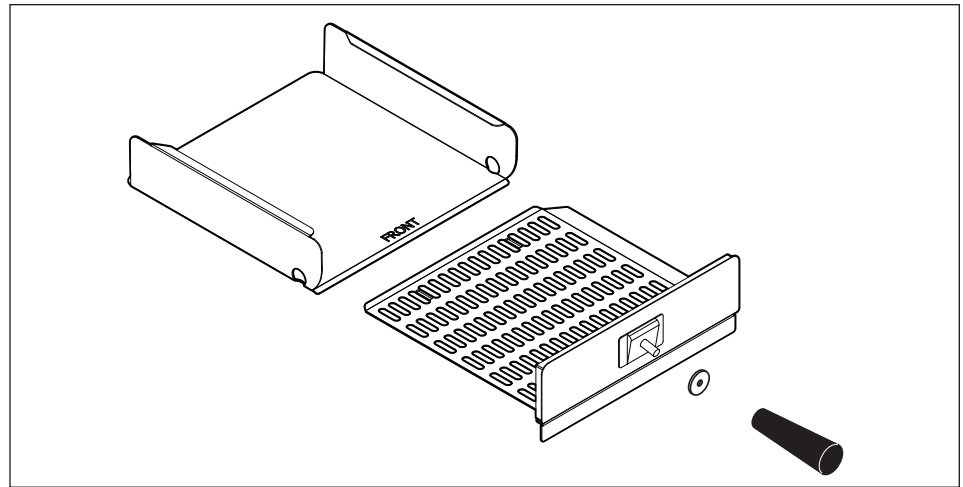

Figure 1. CM-100 Spatula
5. Wipe all surfaces of the unit with a hot damp cloth. Do NOT use a dripping wet cloth. Wring it out before use. Remove and wash the Spatula and Liner (Figure 1) in soap and water by hand. Rinse with clean water and allow to air dry.
6. Assemble the Handle and Handle Guard to the Spatula (Figure 1).